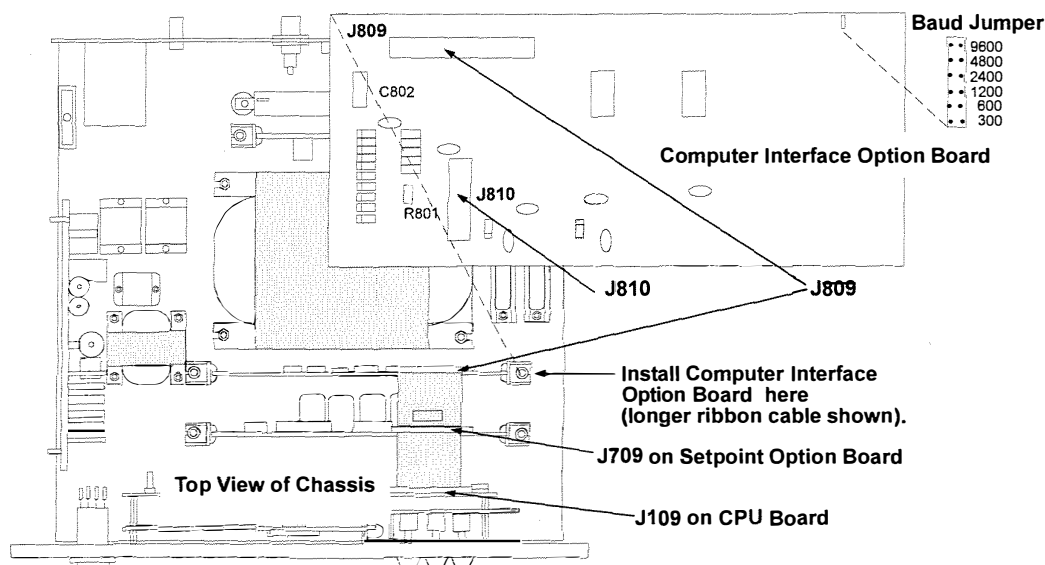

Figure 2-7. Installing the Computer Interface Board
3. Set the baud jumper (Figure 2-7). Install a jumper across the appropriate baud rate for your application.
4. Plug the other end of the cable into J810 on the computer option board (Figure 2-7), matching the arrows and positioning the cable with the colored stripe on top.
**Installing the Computer Option with the Setpoint Option installed.** If the 2-position short ribbon cable is installed on the setpoint board discard it. Plug the 3-position longer ribbon cable (supplied with the computer interface option) into J109 on the CPU board, J709 on the setpoint board, and J809 on the computer interface board (Figure 2-7). Pin 1 should be closest to the left side of the chassis when facing the rear panel.